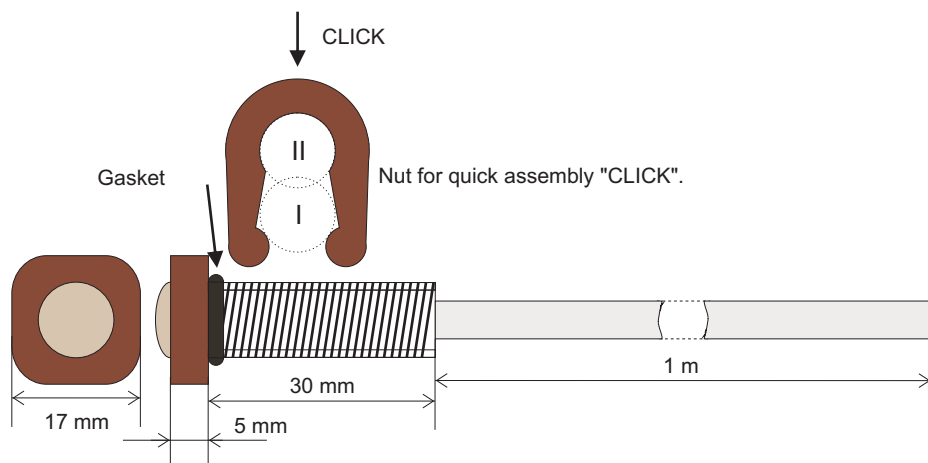

Fig. 1. Photosensitive sensor - design and dimensions.
2. Install the SENSOR using the special "CLICK" nut. The nut is designed to allow quick assembly. It has two zones, I and II (Fig. 1). In the switch box, drill a hole with a diameter of 10 mm in a place lit by daylight. The wall thickness of the switch box must not exceed 25 mm. After installing the SENSOR in the hole, push the nut on the SENSOR into zone I and, after moving it along the SENSOR to the wall of the distribution box, press the nut to zone II.